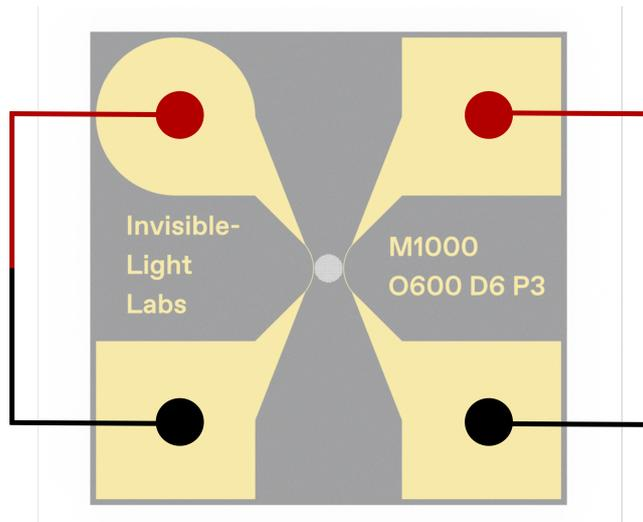

Figure 63: Placement of the multimeter pins on the electrodes of the EMILIE™ chip .
- Check the electrical conductivity of the electrodes on the EMILIE™ chip , Figure 63 shows the electrode pairs connected to each other. The expected resistance should be between 50 Ohm and 150 Ohm.